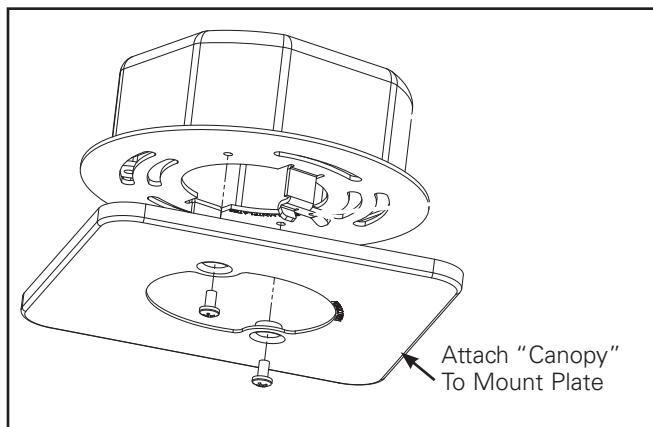

Figure 2.
2. Install "canopy" using screws provided to the mount plate (see figure 2).